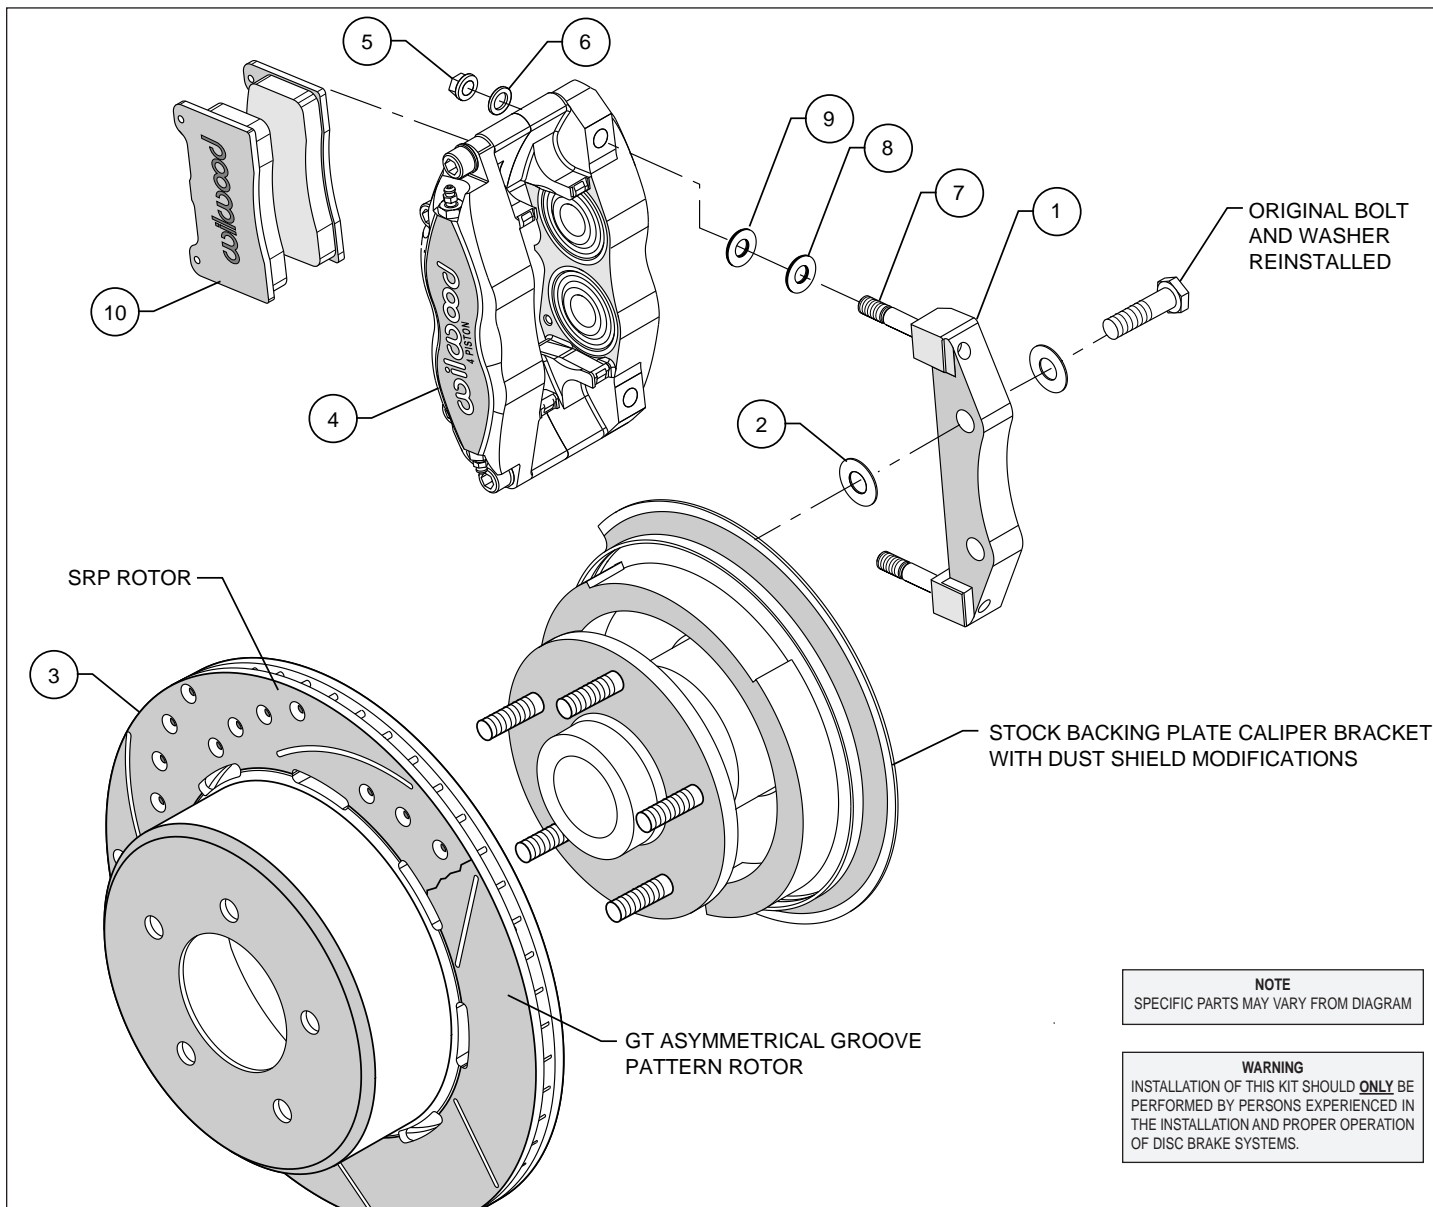

Figure 1. Typical Installation Configuration
- The caliper mounting bracket assembly (1) should be installed first with clean, dry threads on the mounting bolts. Install the bracket from the rear side of the spindle by sliding the original stock bolts through the washer and bracket(1). Place shim washer (2) between the bracket (1) and the spindle (see Figure 1). The bracket must tighten squarely against the side of the spindle body. Inspect for interference from casting irregularities, machining ridges, burrs, etc. Use one thin shim (2) between the bracket (1) and spindle during initial trial fitting.
- Slide the rotor(3) onto the axle. Check to be sure the hat seats squarely against the hub. Install a couple of lug nuts (finger tighten) to keep the rotor(3) in place while continuing with the installation.
•**NOTE:** Please reference the caution statement at the beginning of the assembly instructions. Install one washer (8) and one washer (9) over each pre-installed stud (7) on the radial mount bracket (1). Slide the caliper (4) in place over the studs and rotor and install the washer (6) and lock nut (5) to hold the caliper in place. The caliper bleed screws should be pointing up. Snug the lock nuts (5) and check that the rotor (3) is centered in the caliper (4). Add or subtract .02" shims (9) as necessary between the caliper mounting bracket (1) and the axle to center the caliper on the rotor.
•Remove the caliper quick-clip pad retainer from the caliper. Slide the brake pads (10) into place. They should install easily without interference. Check that the outside radius of the brake pad is aligned with the outside diameter radius of the rotor face. Add or subtract shims (2) between the caliper and mount bracket to gain the proper alignment. Reinstall the quick-clip pad retainer.
•Once all clearances have been checked, remove the wheel, caliper, and rotor from the spindle and hub. Secure the caliper mounting bracket (1) to the spindle with original stock bolt using red *Loctite*® 271. Torque the bolts to manufacturers specifications. Reinstall the rotor and again use lug nuts to hold it in place. Lubricate caliper mounting studs and nuts with lightweight oil, reinstall the caliper, torque the caliper nuts (5) to 30-35 ft-lb.